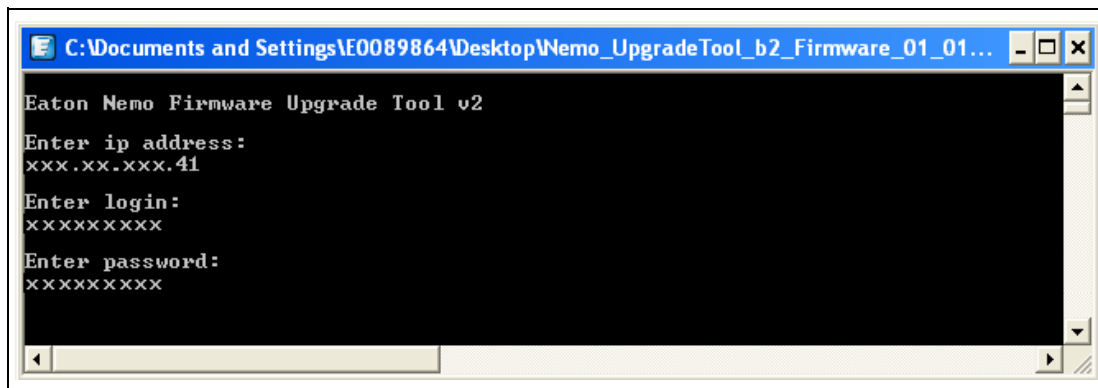

Figure 84. Enter Password
4. Type the Superuser password and press [Enter] (see Figure 84).